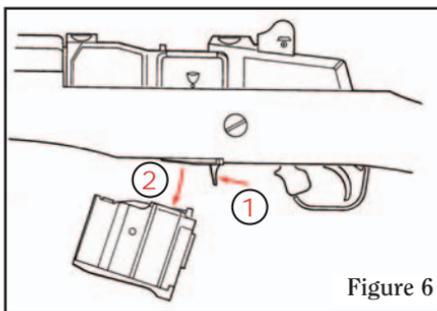

Figure 6
1. With the rifle pointing in a safe direction, safety “ON,” remove the magazine by pushing catch forward to release magazine, while drawing magazine down and forward (see Fig. 6).